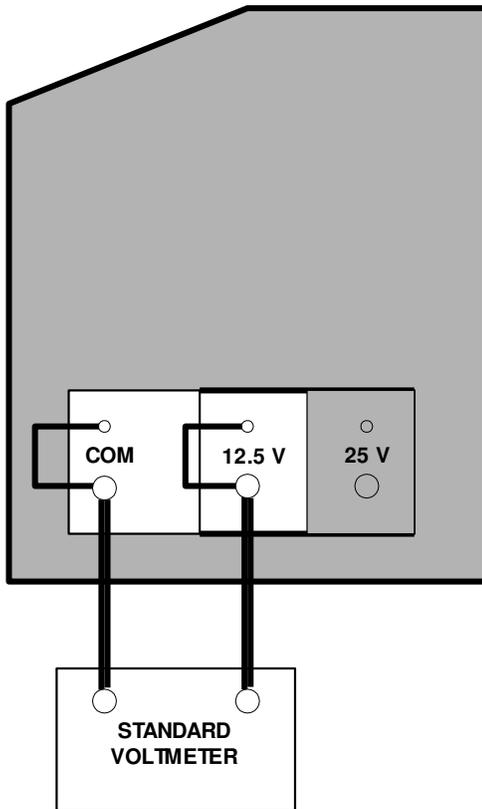

Figure 5-2. Voltmeter Calibration Set-up, 12.5 Volt Tap
1. Connect the test equipment to the Test Set as shown in Figure 5-2. Energize the Test Set.